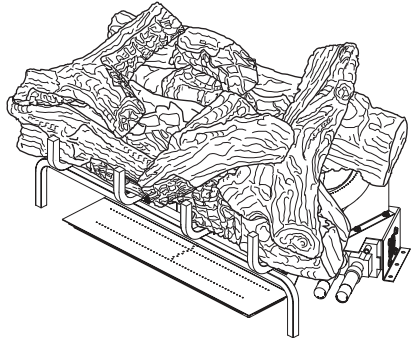
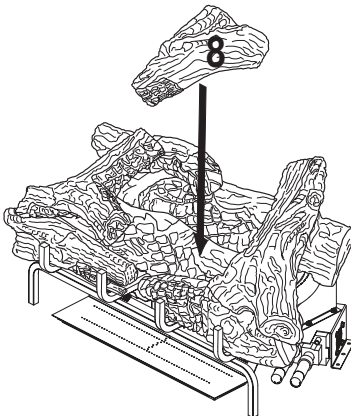

Figure 43- Final Assembly
Figure 42 - Installing Log # 8
- Match the round hole on the bottom of the center crossover log (#8) with the metal pin on the top of the right crossover log. Rest the front of the center crossover log on top of the front right log and against the grate as shown in Figure 42. See Figure 43 for final assembly.